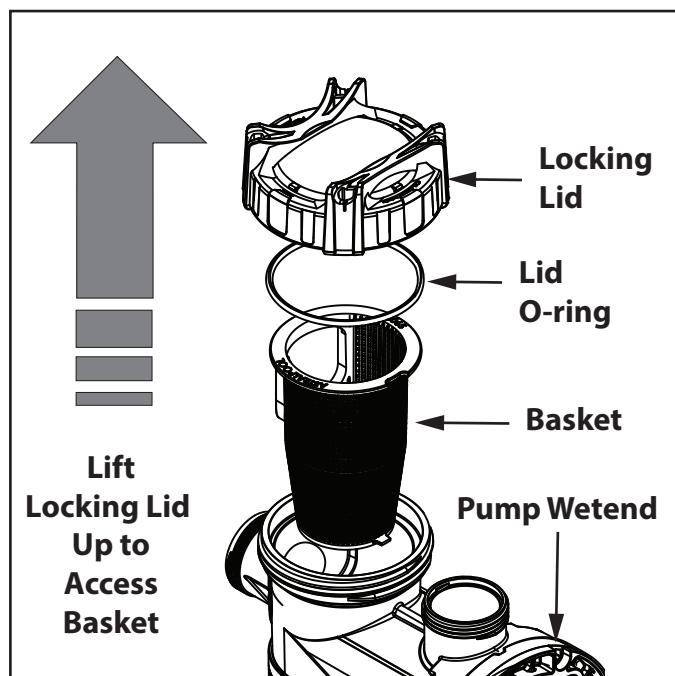

Figure 11. Remove Pump Lid
4. Following the markings on the locking ring, turn the ring counter-clockwise until the 'START' markings align with the ports. See Figures 11.